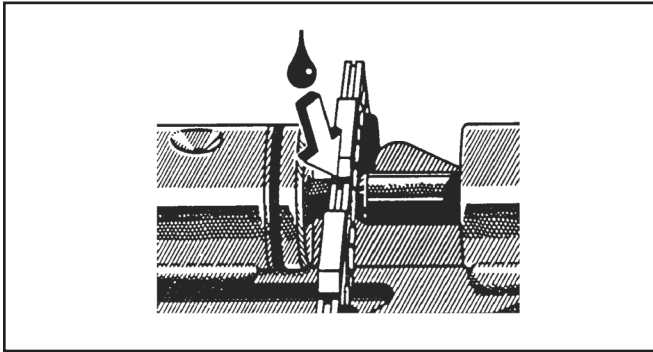

Figure 22. Applying the Oil
5. Apply a few drops of oil to the rivet hub (Figure 22).